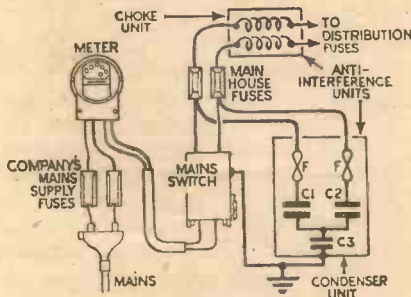

Fig. 2. How house mains H.F. interference-stopping filters can be fitted.
0.2 and 1 millihenry depending on the severity of the trouble. Fig. 2 illustrates such an installation. The wire of which the chokes are wound should be sufficiently large in diameter to carry without distress the current necessary.